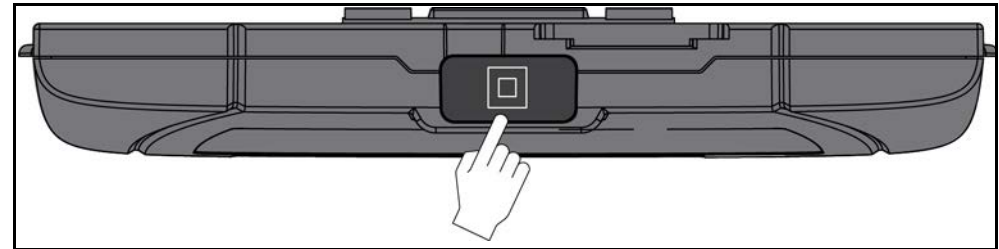

Figure 8-7 Scope Module USB jack location
3. Locate the USB jack on the bottom of the Scope Module (*Figure 8-7*).